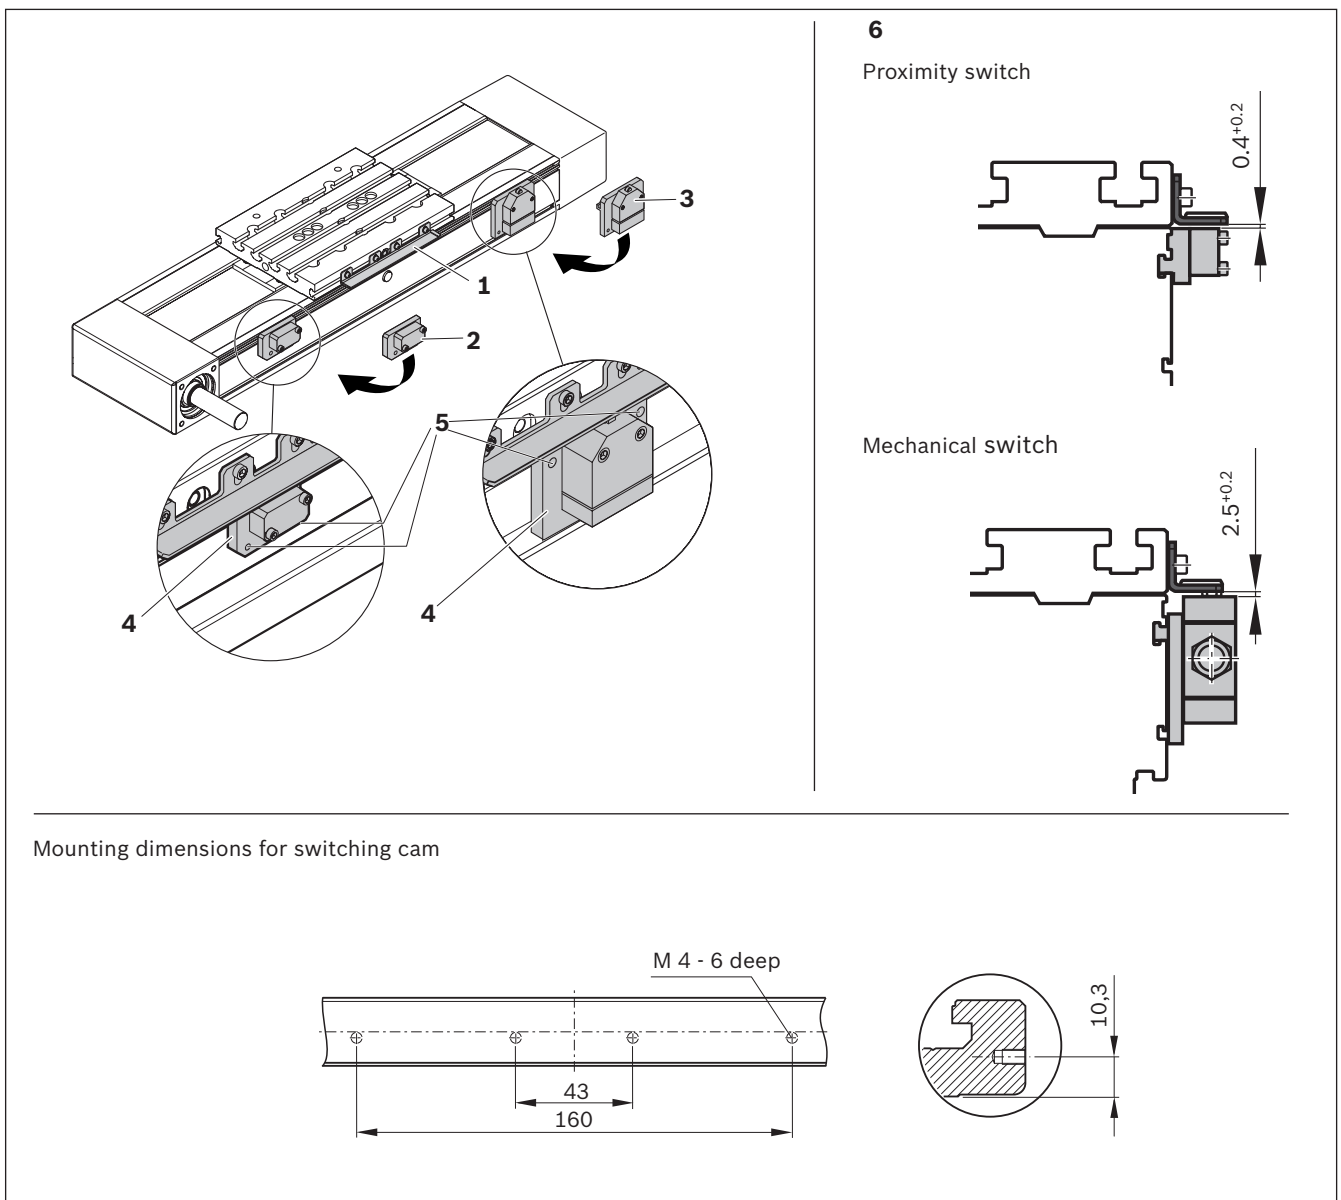

Fig. 11: Mounting of switching system at CKK/CKR-200
- ▶ Fasten the switching cam (1) to the connection plate.
- ▶ Fasten the switching cam to the carriage attachments. Observe the mounting dimensions ➡ ☒ Fig. 11.